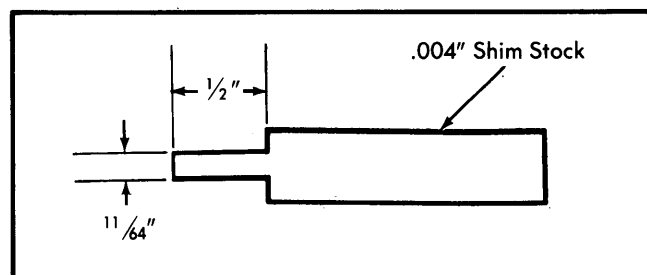

Fig. 4 Rear Main Bearing Oil Seal Installation Tool
3) Check components for scratches, nicks and defects. Before installation, fabricate a seal installation tool using a piece of .004" shim stock. See Fig. 4.